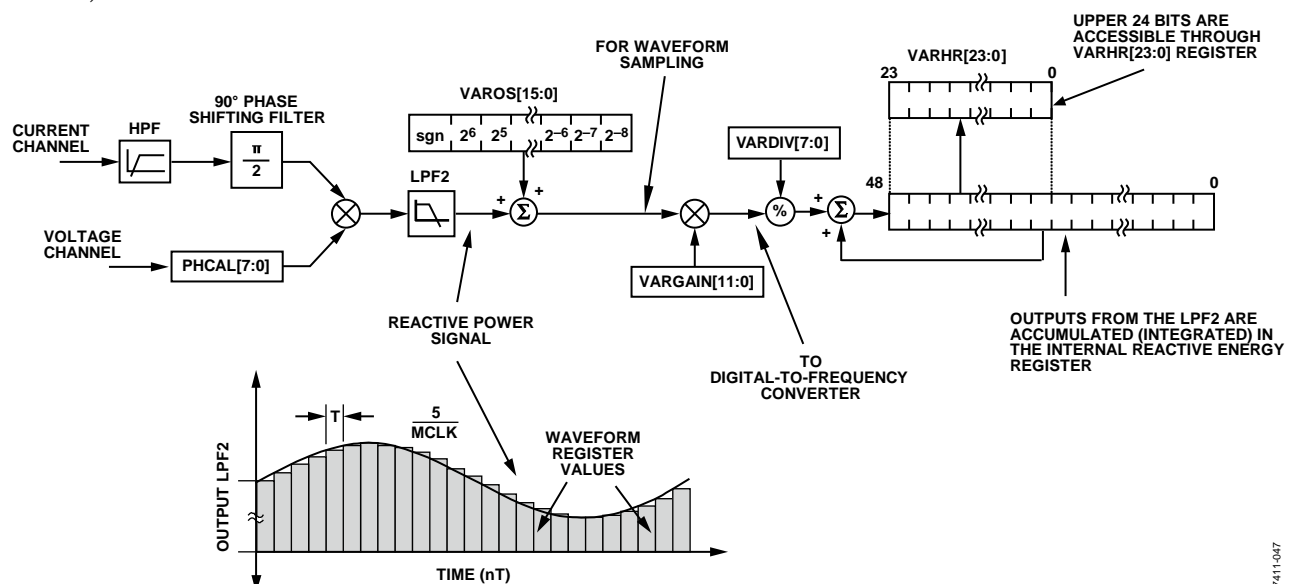

Figure 72. Reactive Energy Calculation
The instantaneous reactive power signal, $q(t)$, is generated by multiplying the voltage and current channels. In this case, the phase of the current channel is shifted by 90°. The dc component of the instantaneous reactive power signal is then extracted by a low-pass filter to obtain the reactive power information (see Figure 72).
Figure 72 shows the signal processing chain for the ADE5169/ADE5569 reactive power calculation. As explained in the Reactive Power Calculation (ADE5169/ADE5569) section, the reactive power is calculated by applying a low-pass filter to the instantaneous reactive power signal. Note that, when reading the waveform samples from the output of LPF2, the gain of the reactive energy can be adjusted by using the multiplier and by writing a twos complement, 12-bit word to the var gain register (VARGAIN, Address 0x1E[11:0]). Equation 23 shows how the gain adjustment is related to the contents of the var gain register.
The ADE5169/ADE5569 also incorporate a reactive power offset register (VAROS, Address 0x21). This is a signed, twos complement, 16-bit register that can be used to remove offsets in the reactive power calculation (see Figure 72). An offset can exist in the reactive power calculation due to crosstalk between channels on the PCB or in the IC itself. The offset calibration allows the contents of the reactive power register to be maintained at 0 when no power is being consumed.
The discrete time sample period (T) for the accumulation register in the ADE5169/ADE5569 is $1.22 \mu\text{s}$ (5/MCLK). As well as calculating the energy, this integration removes any sinusoidal components that may be in the active power signal. Figure 72 shows this discrete time integration or accumulation. The reactive power signal in the waveform register is continuously added to the internal reactive energy register.
As shown in Figure 72, the reactive power signal is accumulated in an internal 49-bit, signed register. The reactive power signal can be read from the waveform register by setting the WAVMODE register (Address 0x0D) and setting the WFSM bit (Bit 5) in the Interrupt Enable 3 SFR (MIRQENH, Address 0xDB). Like the current and voltage channel waveform sampling modes, the waveform data is available at sample rates of 25.6 kSPS, 12.8 kSPS, 6.4 kSPS, and 3.2 kSPS.